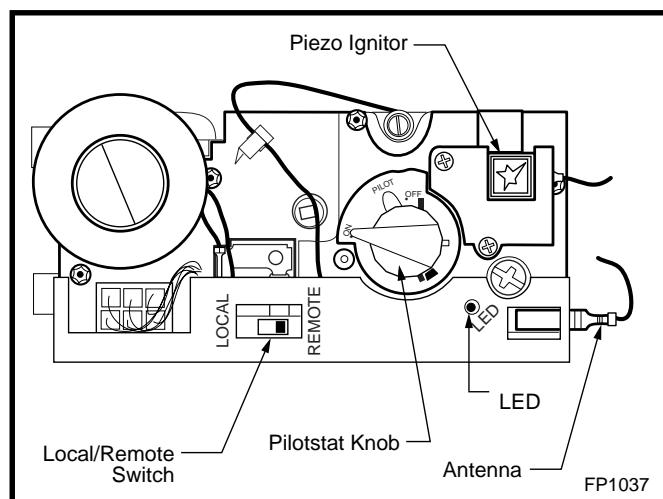

Fig. 39 Comfort control valve.
1. If the manual switch is in remote position, switch it to LOCAL. (Fig. 39)